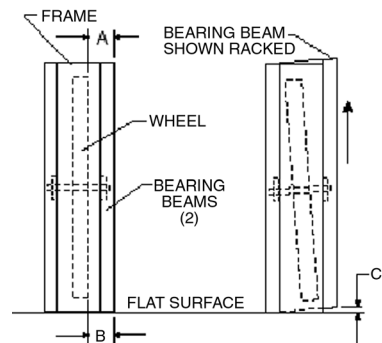
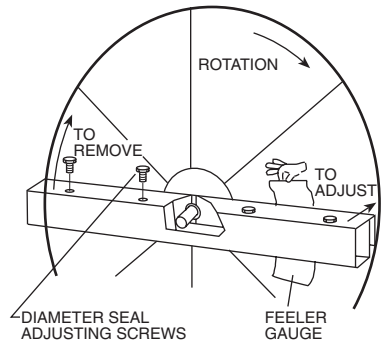

Fig. 81 — Avoid Racking of Frame
Fig. 82 — Diameter Seal Adjustment
6. Remove the upper (3) and lower (4) wheel retainer angles, being careful wheel does not tip and fall out.
7. Slide wheel cassette out of frame (toward main AHU), and out side of unit (5).
8. The new ERV section may be mounted in any orientation. However, *make certain that the frame remains flat and the bearing beams are not racked as shown in Fig. 81.*
9. To ensure that the beams are not racked, check that the distance between the wheel rim and bearing beam is the same at each end of the bearing beam, to within $\frac{1}{4}$ of an inch (dimension A and B in Fig. 81). Bearing beam racking of as little as .040 inches (Dim C in Fig. 81) will cause the wheel to tilt $\frac{3}{16}$ in. at the rim. Adjusting the diameter seals (Fig. 82) will compensate for up to $\frac{1}{4}$ in. of racking.
10. Wheel sections installed at angles greater than 30 degrees from vertical will require seal adjustment (Fig. 82). Adjust the diameter seals to avoid excessive wheel drag. A final check of seal adjustment is recommended for all designs.
1. Loosen the diameter seal adjusting screws and back seals away from wheel surface (Fig. 82).